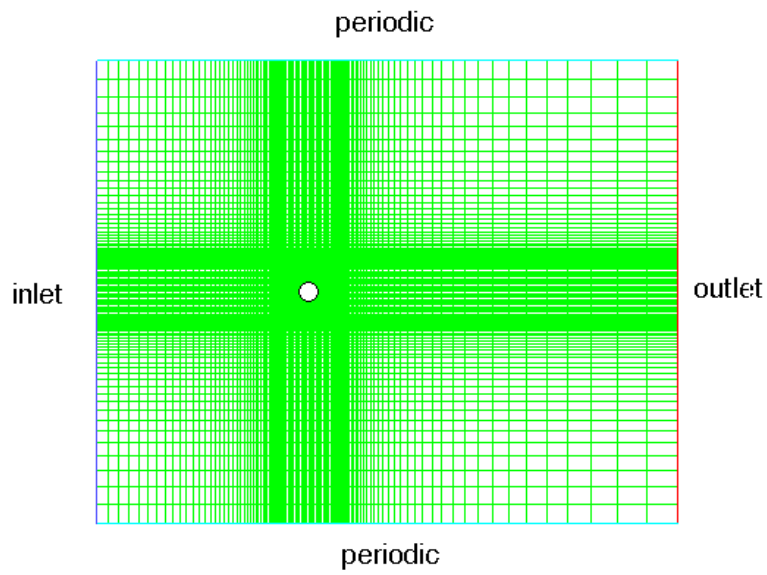

Figure 6.2: Grid Display
4. Display the grid (Figures 6.2 and 6.3).